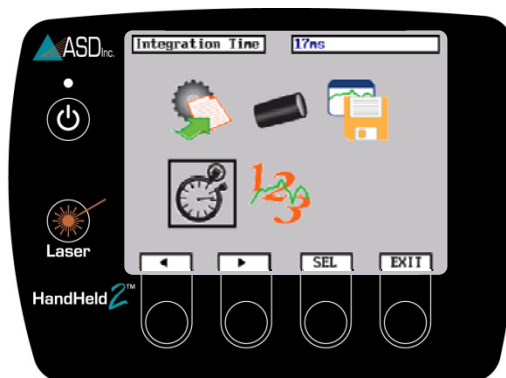

Figure 2-19: Integration Time menu icon
- Step 1 Navigate to the Integration Time menu icon and press the **SEL** button (Figure 2-19).